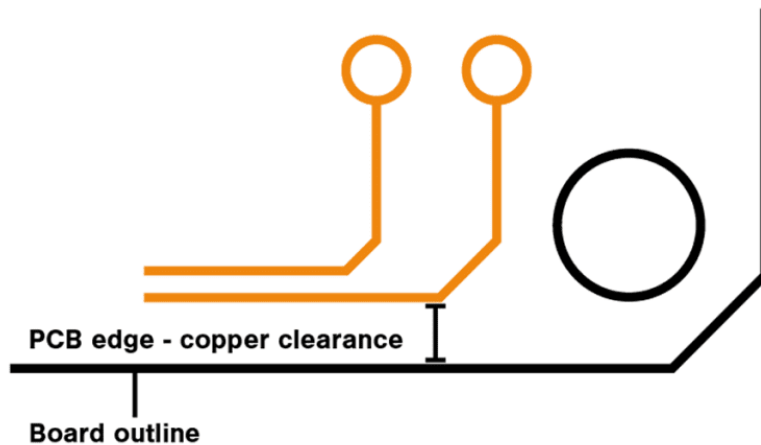

Figure 2. Proper copper-to-edge clearance prevents electrical shorts.
- **Insufficient copper-to-edge clearance.** Insufficient clearance potentially leaves copper exposed through the edge of the PCB after depaneling, which may cause electrical shorts or even scrap the PCB (**Figure 2**).